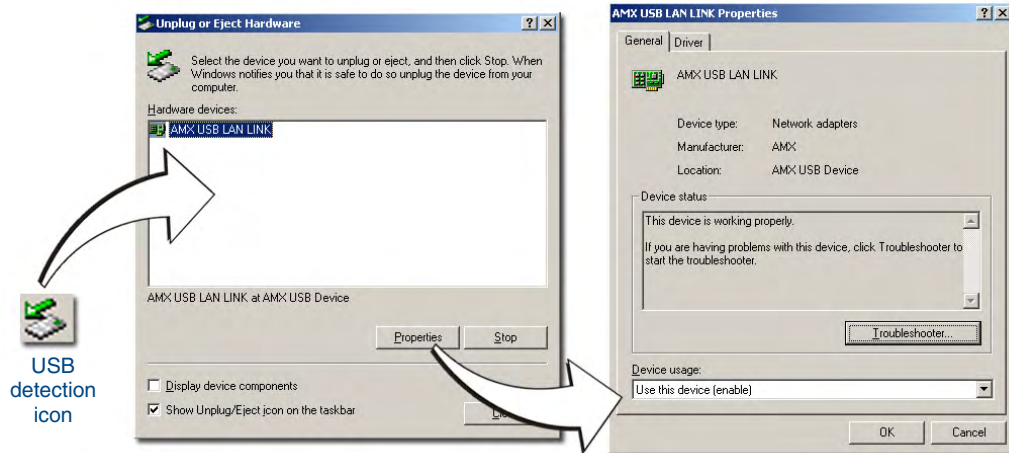

FIG. 83 USB Properties windows (Windows Device Manager)
3. Confirm that a new USB detection icon (FIG. 83) appears in the lower-right taskbar on the PC display window.